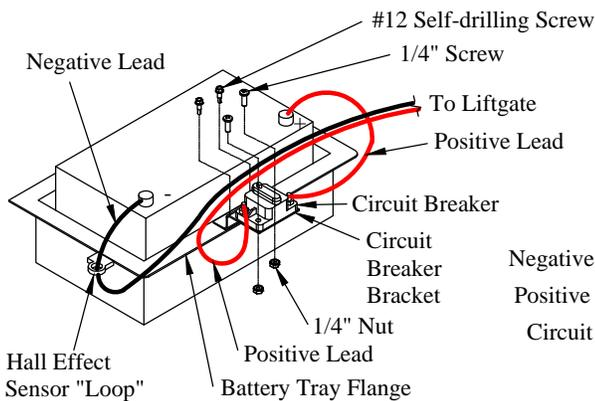

Figure 16: Circuit breaker bracket.
1. **Install** the circuit breaker on the circuit breaker bracket with 1/4" screws and nuts (Figure 16).
Note: The liftgate ground must pass through the "loop" of the hall effect sensor (Figures 16 & 18). Not doing so will effect the charging system and shorten battery life (Ford Bulletin Q-231).